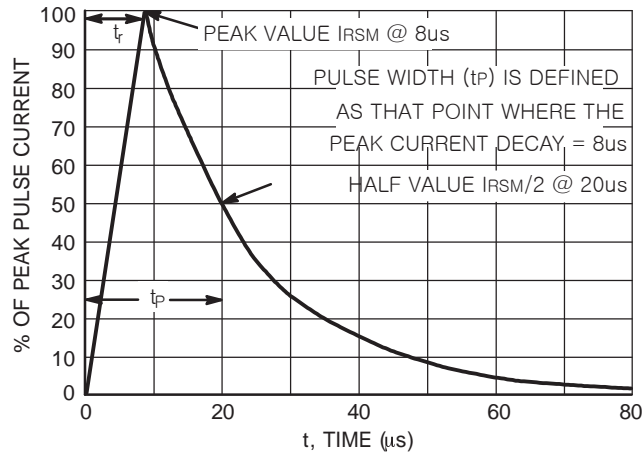

Figure 4. 8 X 20us Pulse Waveform
- Surge current waveform per Figure 4.